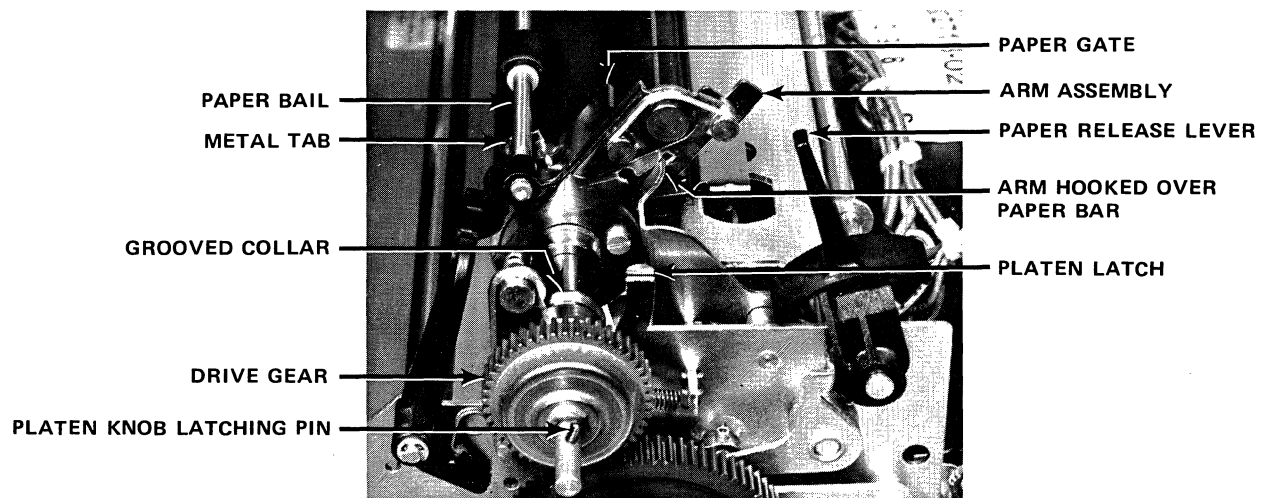

Figure 4-30. PIN FEED PLATEN INSTALLATION
- 6) Depress the platen latches on the printer, and lower the platen into place with the grooved collar at each end of the platen seated in the corresponding notch in the printer side frame. As the platen is being lowered, guide the arm assemblies so that the slot in each arm hooks over the paper bar, as shown in Figure 4-30. This locks the arm assemblies into proper position.
- 3) Lift open the paper gate (Fig. 4-30) at each end of the platen. (The gate will remain open if lifted to its limit.)
- 4) Insert the leading edge of the paper down behind the paper bar (Fig. 4-30) and platen while manually turning the platen to feed the paper around and up in front of the platen.